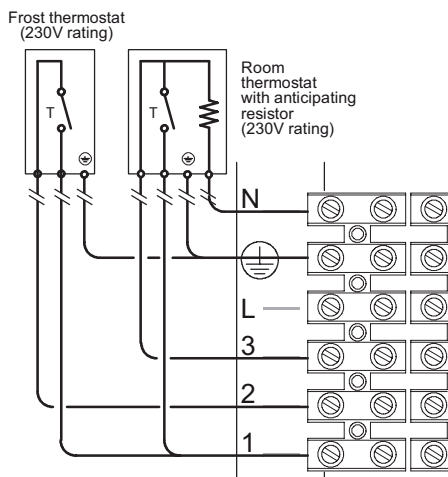
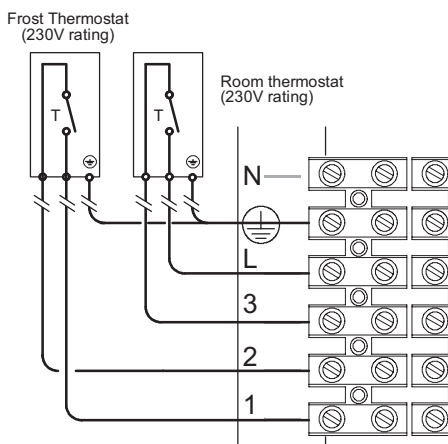

Fig. 6.25
Fig. 6.26
- Connect the frost thermostat between terminals 1 and 2 as shown in Fig. 6.24, Fig. 6.25 or Fig. 6.26.